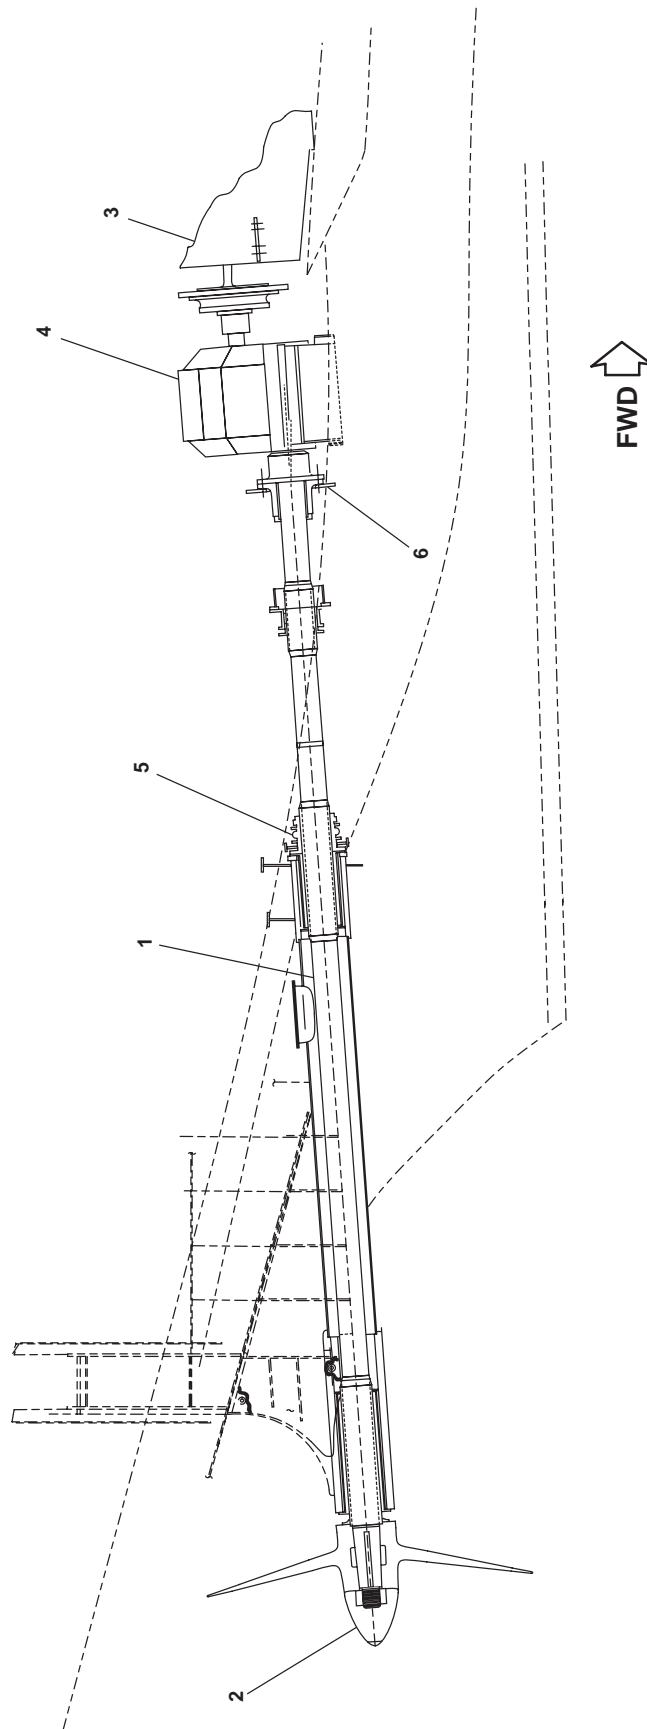
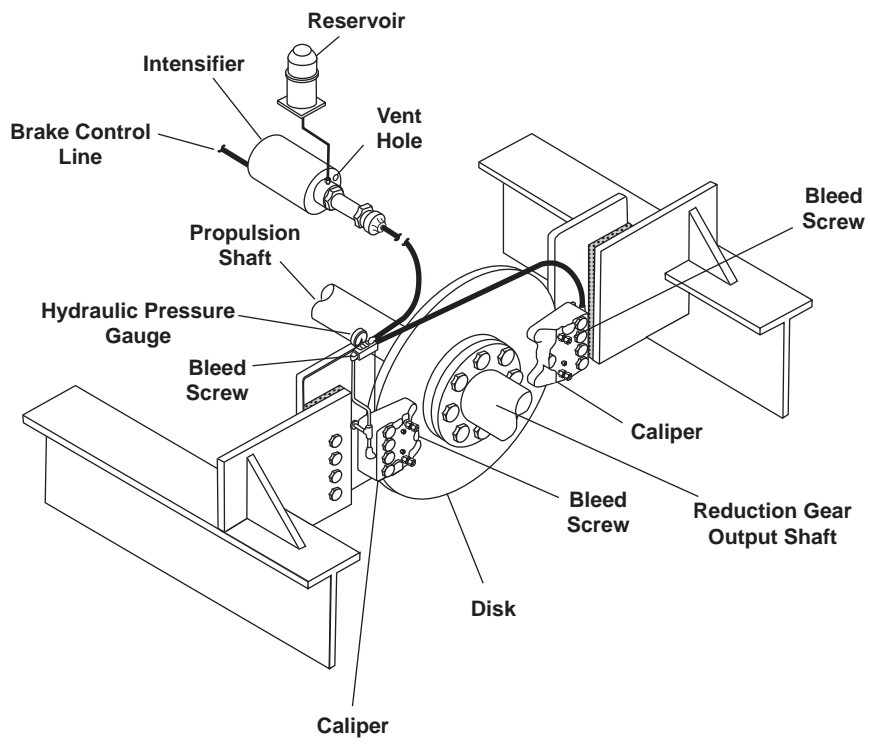

Figure 1. Propeller Shaft and Propellers
Figure 3. Disk Brakes
Each propeller shaft (figure 1, item 1) is equipped with a hydropneumatically operated shaft brake (figure 1, item 6). The shaft brake system is designed to lock the propeller shaft when the reversing reduction gear (figure 1, item 4) is in NEUTRAL. When placed in NEUTRAL, the shaft brake actuator sends 1200 to 1500 PSI (82.7 to 103.4 bar) of hydraulic pressure to the shaft brake, bringing the propeller shaft and propeller (figure 1, item 2) to a full stop. Movement of the throttle 20 degrees AHEAD or ASTERN causes the shaft brake to immediately release. See figure 3 for details of the shaft brake.
With the shaft seals (figure 1, item 5) manually deflated, and the throttle moved into the ASTERN or AHEAD position, the shaft brakes (figure 1, item 6) are immediately released. The main engines (figure 1, item 3) and reversing reduction gears (figure 1, item 4) plant begins to turn the propellers shafts (figure 1, item 1) and propellers (figure 1, item 2) in the desired direction of rotation, causing the LT to move in the desired direction.